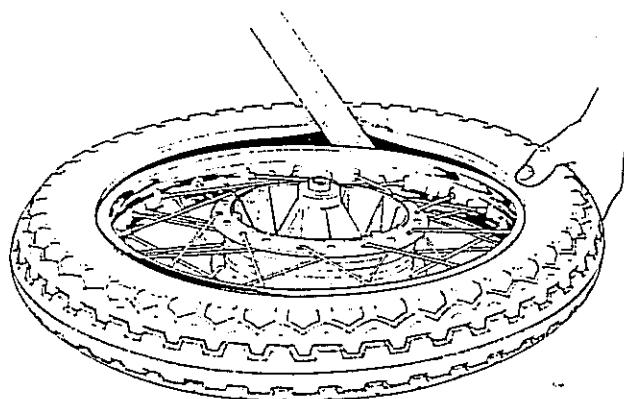

Fig. H23 Careful levering of second bead over wheel rim
- 8 As shown in Fig. H23, taking care to avoid "nipping", lever the last portion of the beading over the rim, finishing at the valve.